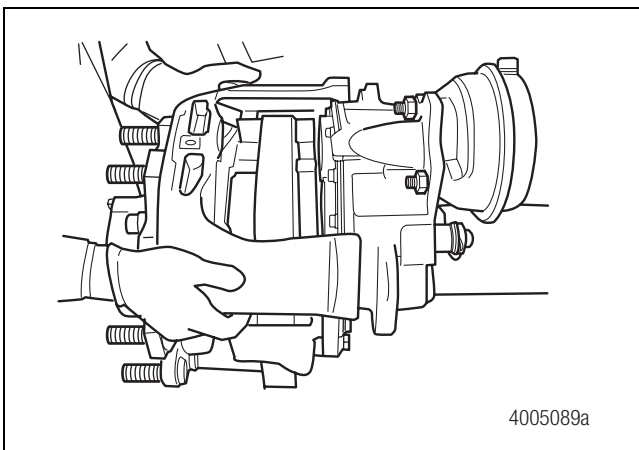

Figure 5.18
3. Carefully remove the bridge. Figure 5.18.